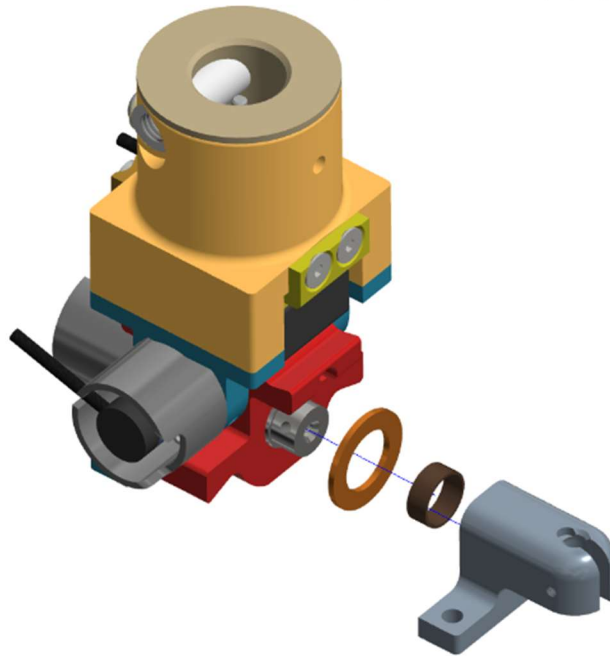

Figure 10-25. Achilles cable retainer
10.2.21 Slide the Achilles Cable Retainer (474-5828) and Ankle Thrust Washer (474-5720) from the Ankle Center Block Assembly (474-5824-A) (Figure 10-25).